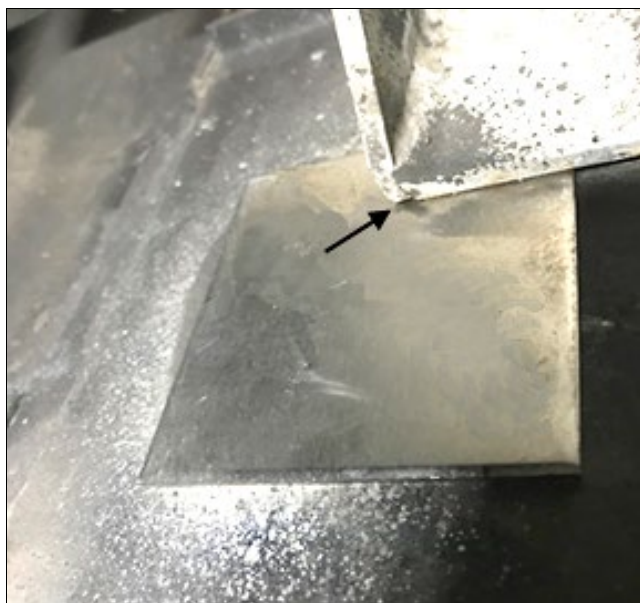

FIGURE 15: 7770484 PLATE POSITIONNED OVER HOLES
6. Position the **7770484** reinforcing plate so it covers all 3 hinge holes at the back of the structure (slide the top right corner between the frame and the battery tray (Figure 15).